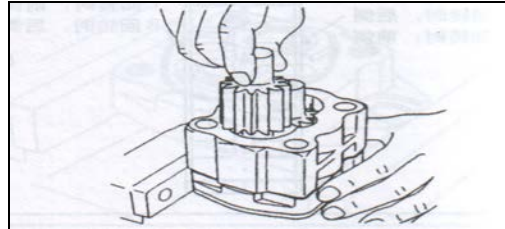

Fig. 5-34
g) Install the driven gear on the pump body as the direction shown in Fig. 5-34.